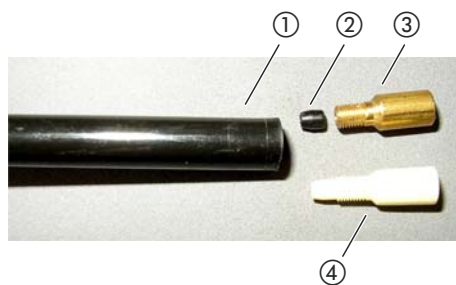

Fig. 6: Capillary filter
- 3 Insert the plugwasher, see fig. 6 on page 19.